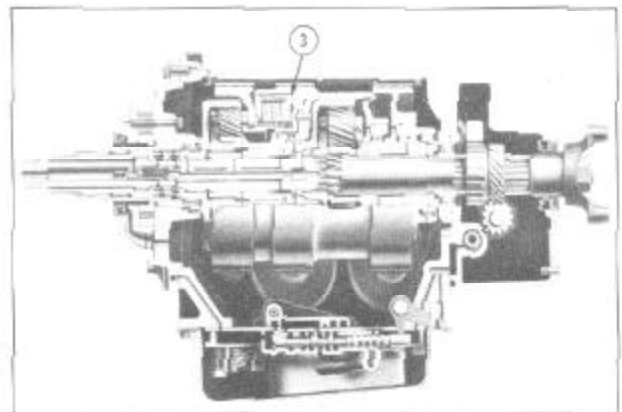
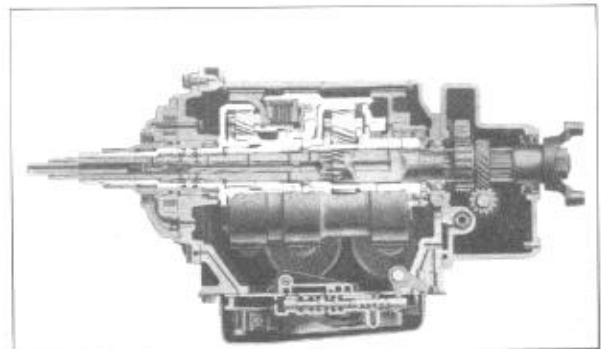

FIGURE 10
FIGURE 11
brake drums (2), multiple disc clutch (3) (indicated by arrow), Figure 10, and the planetary gear sets, as shown in Figure 11.